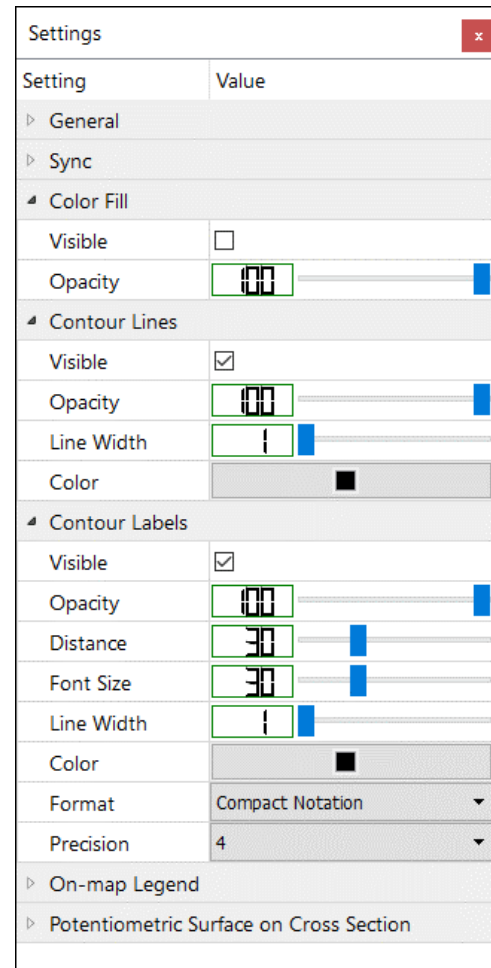

Figure 151. The Color Fill, Contour Lines, and Contour Labels groups of the Settings window for Contour Maps
3. Color Fill (Figure 151)
4. Contour Lines (Figure 151)
5. Contour Labels (Figure 151)